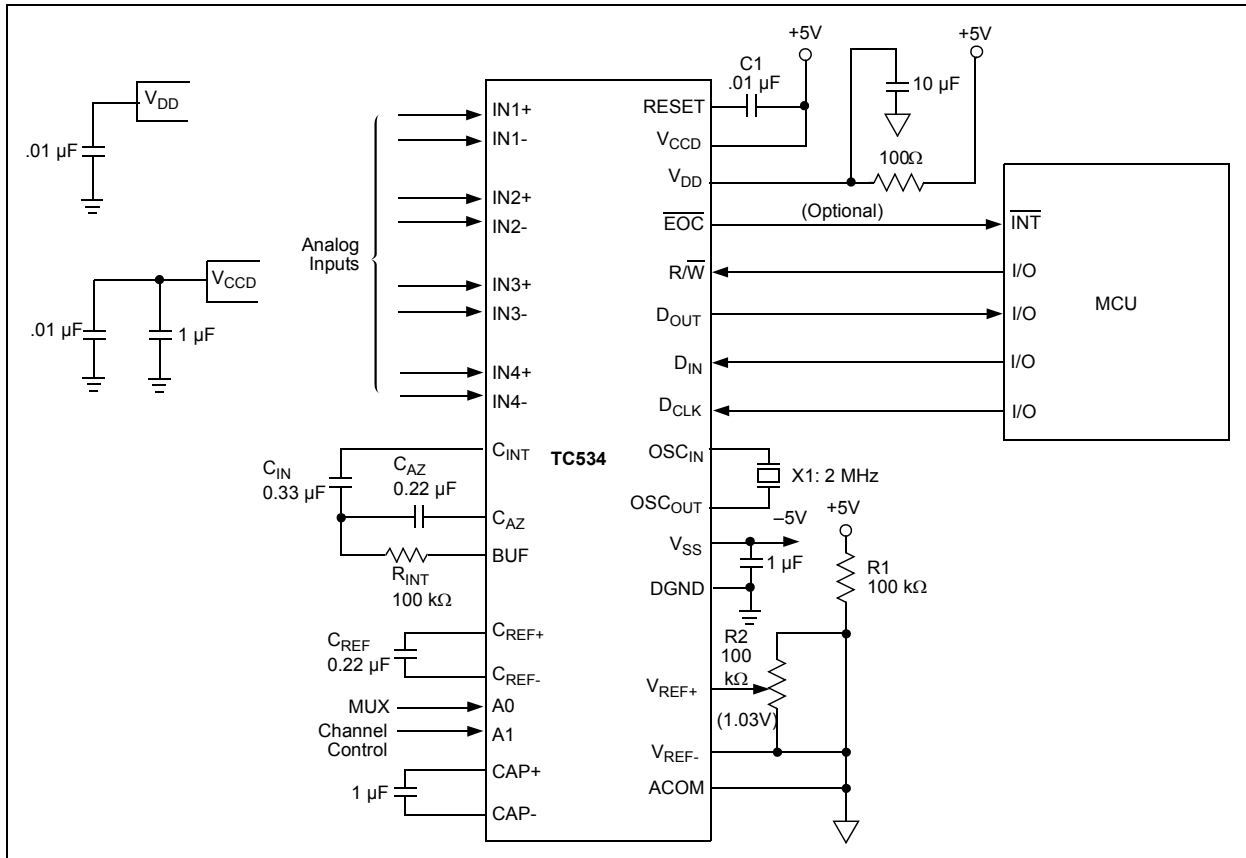

FIGURE 5-1: Typical Application.
Figure 5-1 shows a typical TC530 interrupt-driven application. Timing and component values are calculated from equations and recommendations made in Section 4.1 "Dual Slope Integrating Converter" and Section 5.1 "Programming the TC530/TC534" of this document. The EOC connection to the processor INT input is for interrupt-driven applications only. (In polled systems, the EOC output is available on D_{OUT}).
- Improper sequencing of the power supply inputs (V_{DD} vs. V_{CCD}) can potentially cause an improper power-up sequence to occur in the internal state machines. It is recommended that the digital supply, V_{CCD} , be powered up first. One method of insuring the correct power-up sequence is to delay the analog supply using a series resistor and a capacitor. See Figure 5-1, TC530/TC534 Typical Application.